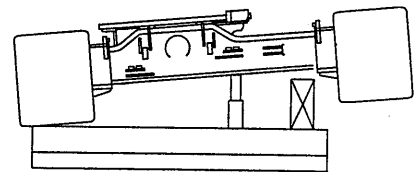

Fig. 11-45
- (6) Fit jacks to the appropriate positions on the axle (2 pos. on one side), and jack up the machine slightly. (Fig. 11-45)